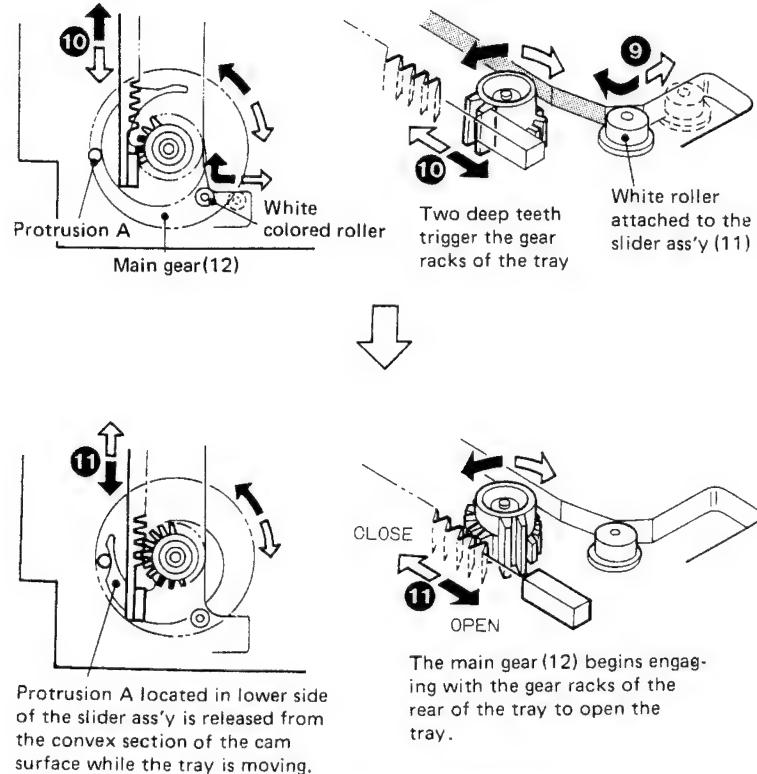

Fig. 6 Gear (12) operations
Fig. 6 shows the operation of the main gear (12) which actually performs the OPEN/CLOSE operation of the tray described above.